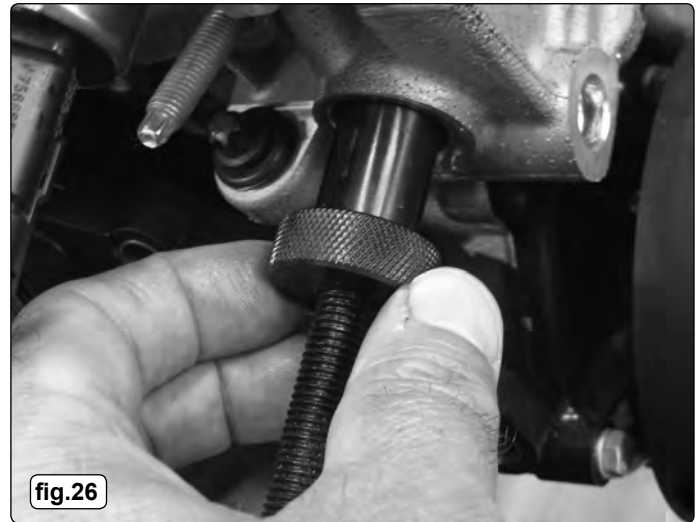

fig.26
- 3.4.8. Insert VS4803 Chain Tensioner Pre-Load Tool into cylinder head (**fig.26**). Screw in the adjusting screw of VS4803 by hand until it makes contact with the tensioner rail **but does not apply pressure**.